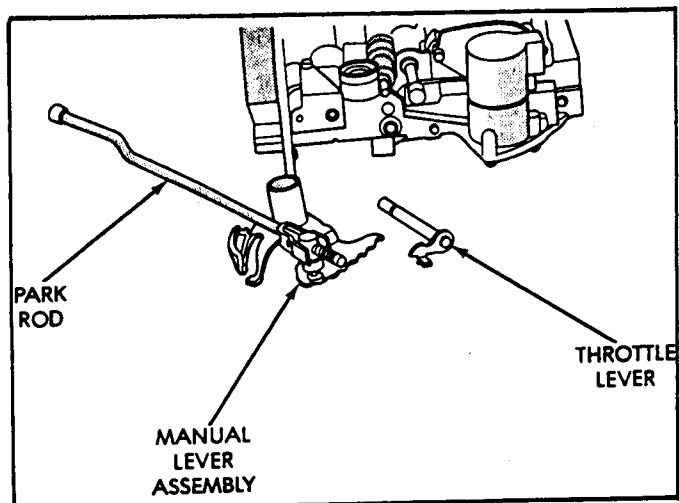

Figure 110
43. Install throttle lever in the upper housing, then install the manual lever over throttle lever and start manual lever into housing (See Figure 110).